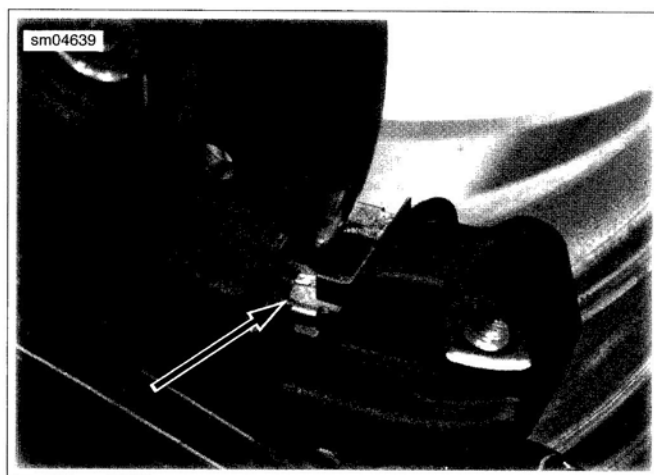

Figure 1-37. Torque Clip
9. See Figure 1-37. Inspect torque clip. Replace if worn or damaged.